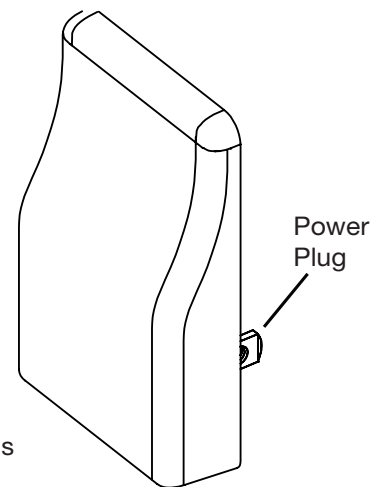

Figure 26. Wireless Repeater
- Separate the face plate from the back plate by firmly pulling apart (Figure 26, Boxes B or C). Be careful not to damage face plate contact pins.